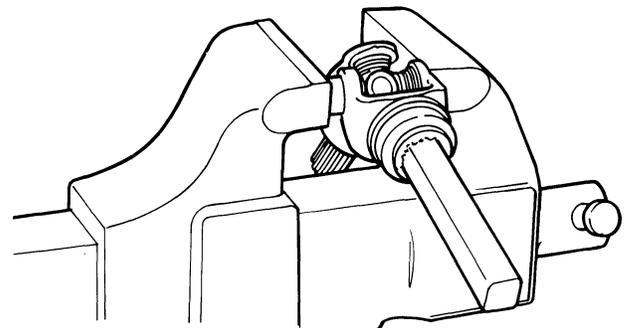

Figure 11
- When the bearing cups are flush with the end of the yoke loosen the vise and place the smaller socket against one of the bearing cups and press it in until the snap ring can be replaced, as shown in Figure 11.